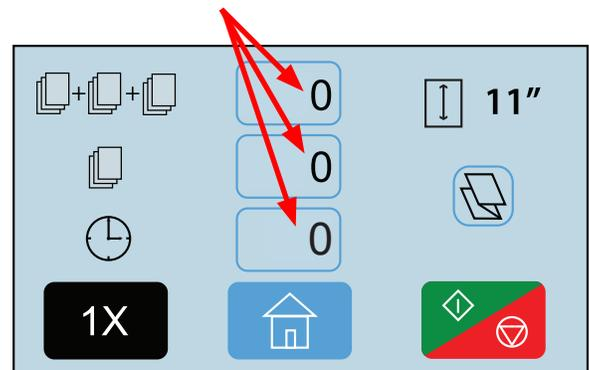

Fig. 53b
2. In the AutoBatch mode insure all windows are set to “0”. (Fig. 53b)